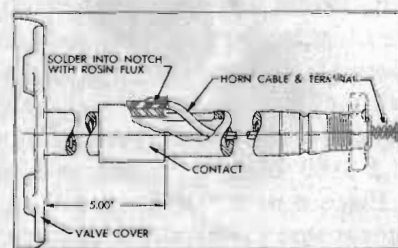

Figure 7-36—Location of Horn Cable Contact
25. Install the horn cable contact on steering shaft with notch for cable aligned with hole in shaft and outer edge of contact located 5" from face of valve cover. See figure 7-36.